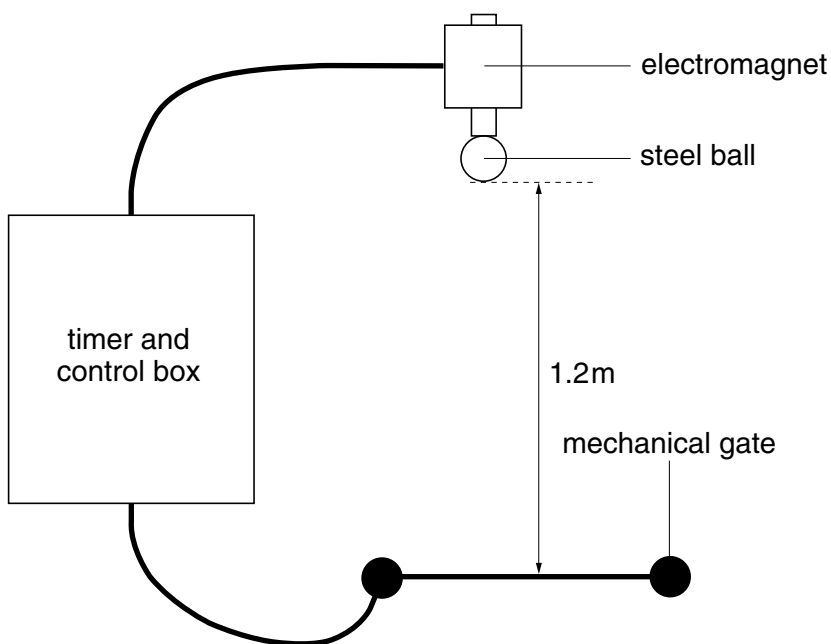

Fig. 8.1
- 8 The apparatus of Fig. 8.1 is used to take readings from which to calculate the acceleration of free fall.